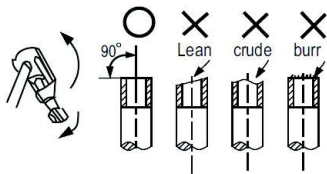

Fig.6-1
- Cut a pipe with a pipe cutter. (refer to Fig.6-1)